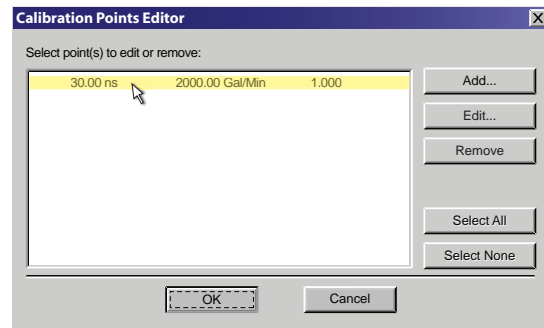

Figure 16: Calibration page 3 of 3
5. If a calibration point is displayed in *Calibration Points Editor*, record the information, then highlight and click **Remove**. See Figure 16.